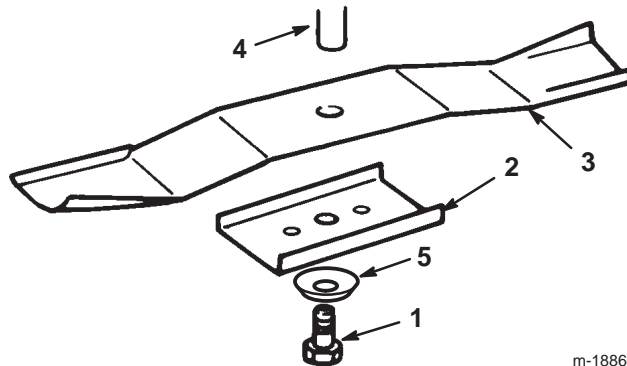

Figure 29
3. Remove the bolt (5/8 in. wrench), curved washer, retainer, and blade (Fig. 29). Use a block of wood as a wedge between the blade and the mower to lock the blade when you are removing the bolt.
1. Install the blade, the blade retainer, the curved washer (cupped side toward blade), and the blade bolt (Fig. 29).